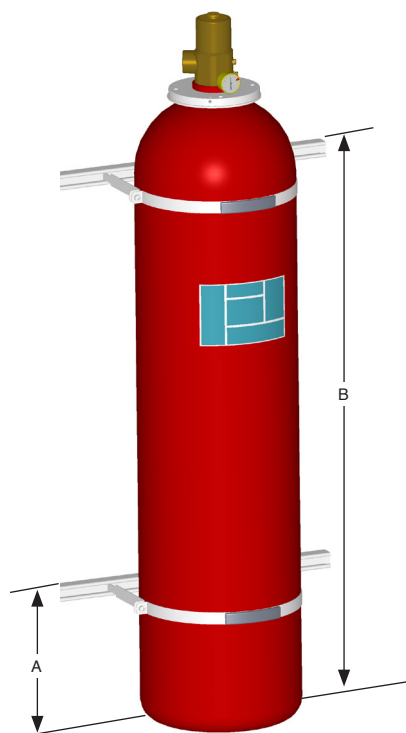

FIGURE 6-3
3. Insert the container bracket strap and secure with the bolts provided. See Figure 6-3.